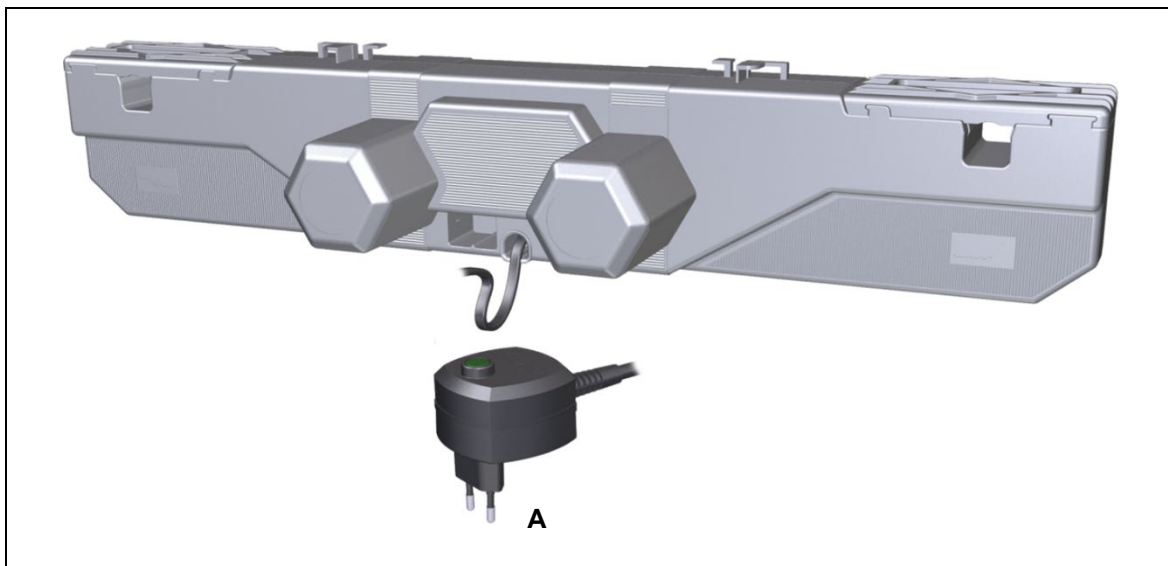

Figure 3 Variants of the mains cut-off
- 3 Align the OKIMAT in the proper position next to your end product. The slots for the back and leg sides must be properly aligned with the correct brackets on your end product (refer to the symbols on the OKIMAT as described in Figure 3).